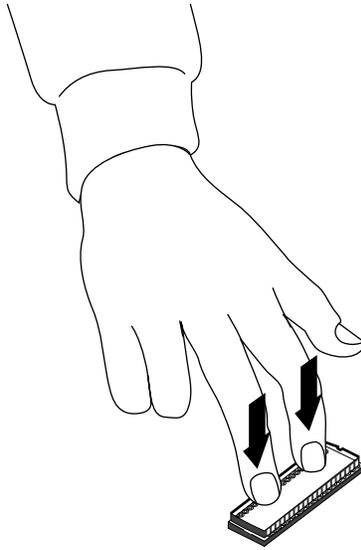

Figure 2-15 Pressing the PROM Chip Into the Socket
4. Once the pins are lined up, press down firmly on the top of the PROM chip until it is seated in the socket, as shown in Figure 2-15.